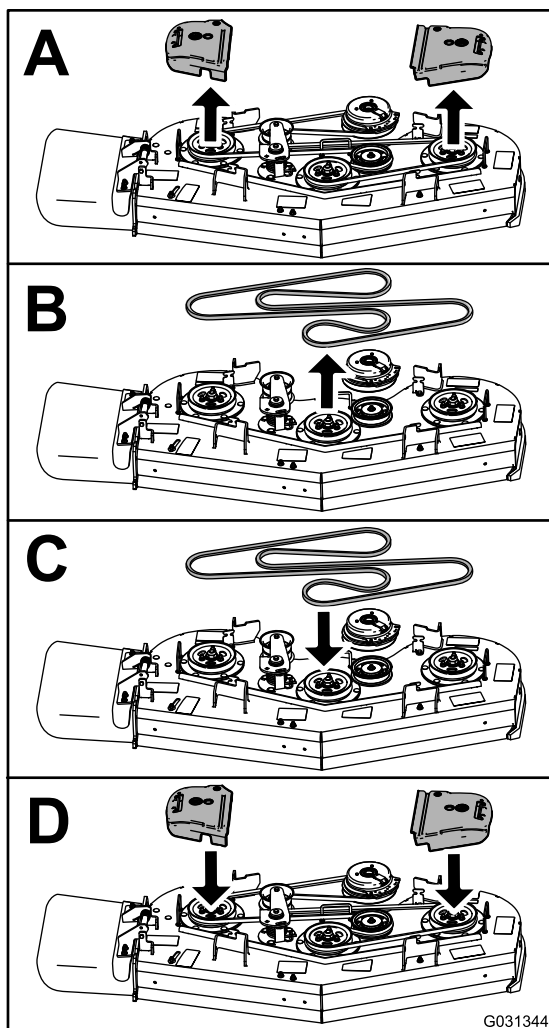

Figure 65
3. Replace the belt as shown in Figure 65.